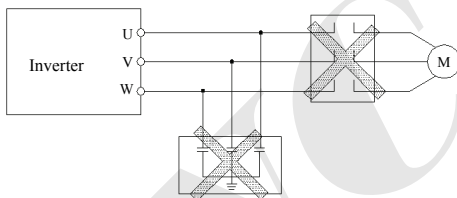

Fig. 3-3 Forbid to use contactor and absorbing capacitor
- (1) Before wiring, make sure the power supply has been completely cut off for more than 10 minutes, otherwise there is a risk of electric shock.
- (2) It is strictly prohibited to connect the power cord to the output terminals U, V, and W of the inverter.
- (3) There is leakage current in the inverter itself. The leakage current of the medium and high power inverter is greater than 5mA. To ensure safety, the inverter and motor must be safely grounded. The general diameter of the grounding wire is 3.5mm². The ground resistance of the above copper wires is less than 10Ω.
- (4) The inverter has passed the withstand voltage test before leaving the factory. Users are not allowed to perform the withstand voltage test on the inverter.
- (5) Do not install an electromagnetic contactor, absorption capacitor or other resistance-capacitance absorption device between the inverter and the motor, as shown in Fig. 3-3.
- (6) In order to provide input side overcurrent protection and facilitate power outage maintenance, the inverter should be connected to the power supply through an intermediate relay.
- (7) For the wiring of the relay input and output circuits (X1~X5, OC, FWD, REV), stranded wires or shielded wires of above 0.75mm² should be used. One end of the shielding layer is suspended in the air and the other end is connected to the ground terminal PE of the frequency converter. The wiring length is less than 20m.